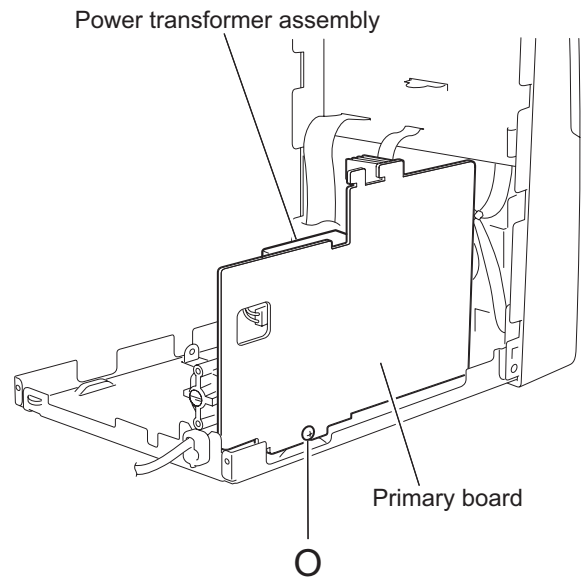

Fig.26
3.1.9 Removing the power transformer assembly (See Fig.26, 27)